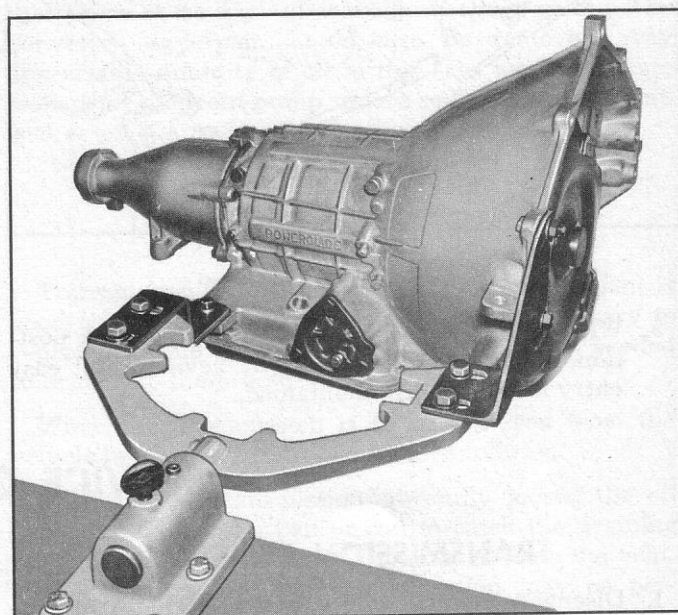

Fig. 8—Transmission Mounted in Fixture
1. Place transmission in holding fixture J-3289-01 and adapters J-9506 (fig. 8).